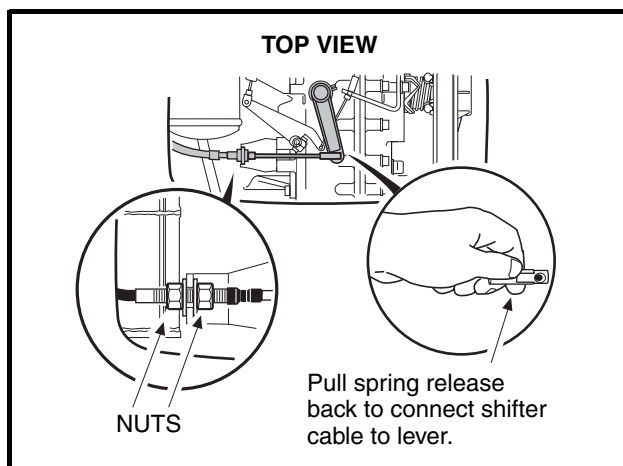

Figure 16-46 Connect Shifter Cable
- 22.4. Install the nut (3), washer (4), and bolt (7) on the Forward/Reverse shifter lever and tighten to 23 in lb (4.1 N·m).
23. Position the shifter cable in the shifter cable mounting bracket on the transaxle and tighten the mounting nuts to 22 ft-lb (29.8 N·m). Connect shifter cable rod end to the shifter arm **(Figure 16-46, Page 16-19)**.